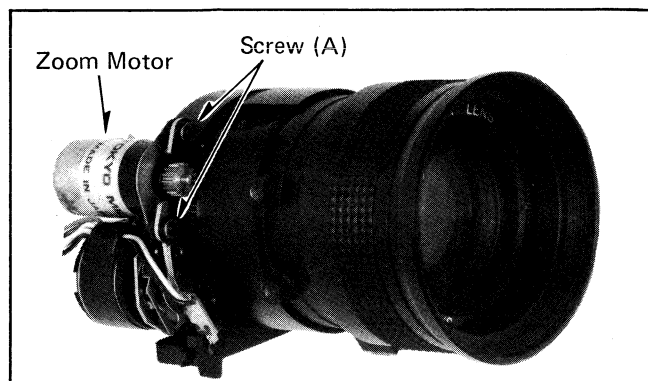

Fig. 16 Zoom Motor
- 5-2. Unscrew 2 screws (A) and remove the zoom motor (see Fig. 16).